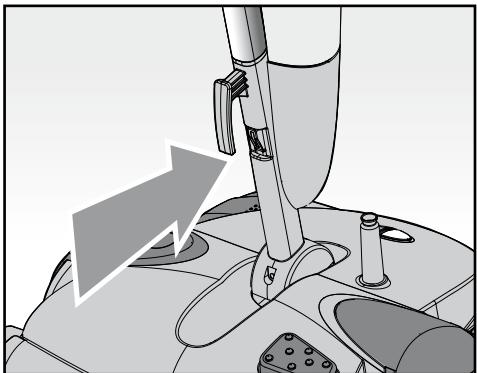

Fig. 2
- fit the two parts of the handle (I) together, pressing them together as far as they will go;
- insert the rotating handgrip (H) into the top end of the handle (I), pressing it as far as it will go;
- fit the assembled handle (I) on the appliance body, pushing it down with care until it clicks into place (Fig. 2);
- insert the water tank (M), complete with cap (L) into the special housing on the handle (I).